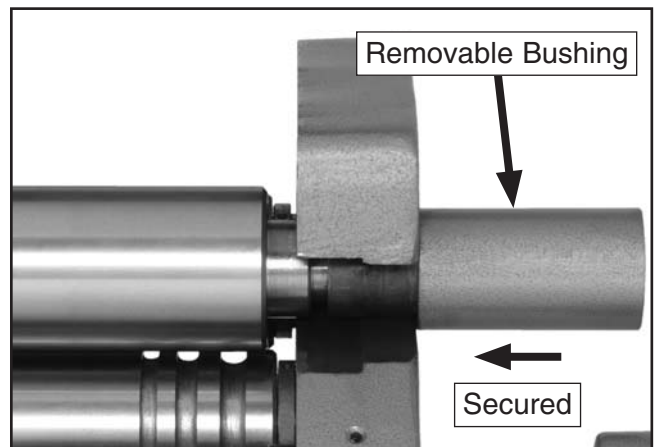

Figure 32. Securing top roller.
4. Move the top roller back into position and slide the removable bushing in to secure the top roller (**Figure 32**).